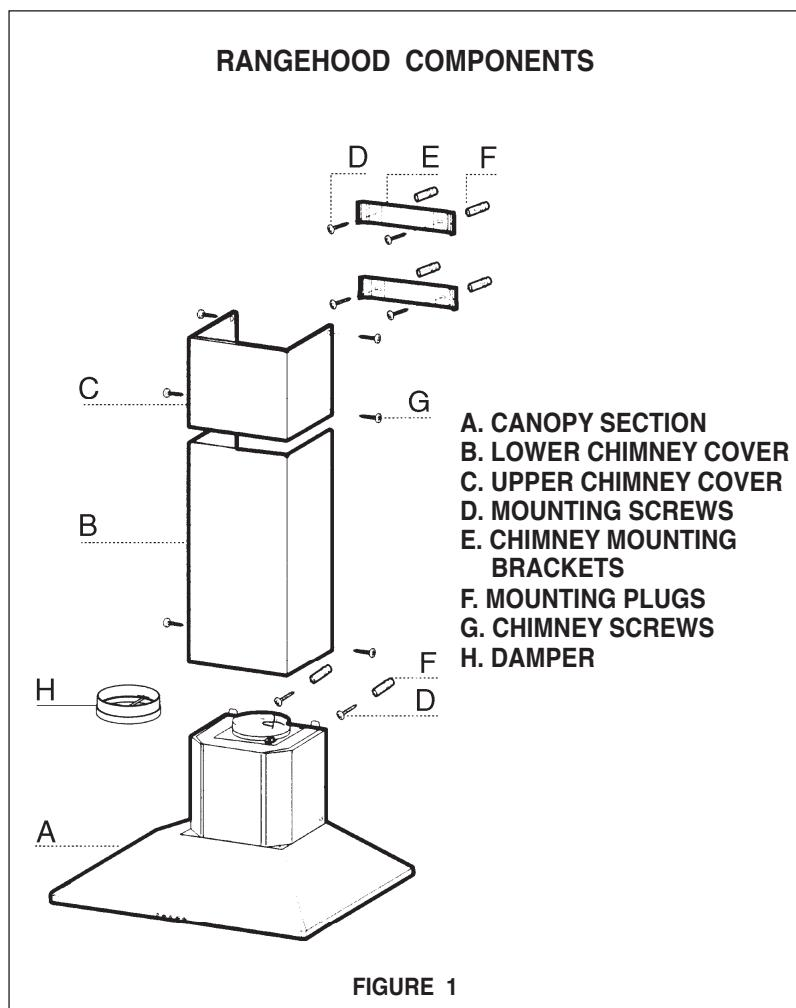
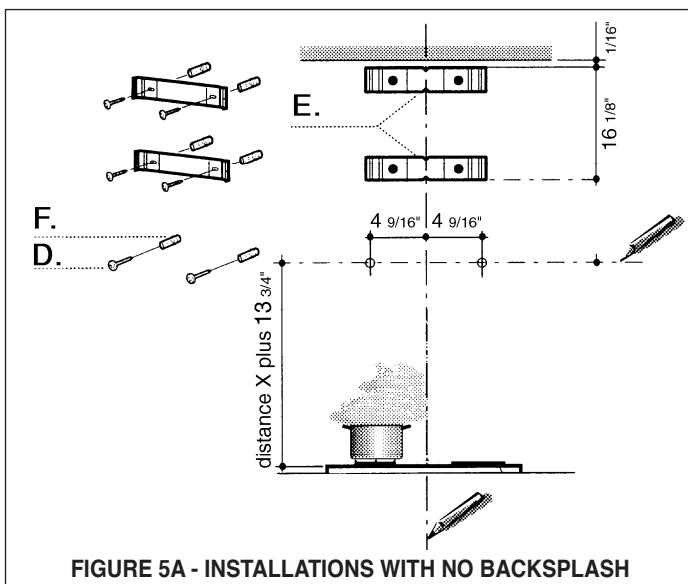

FIGURE 1
FIGURE 5A - INSTALLATIONS WITH NO BACKSPLASH
3. Based on your ceiling height and/or personal preference, determine the distance you would like between the bottom of the hood and the cooktop (**distance X** in **FIGURE 4A OR 4B**). Draw a horizontal line the height of **distance X** plus 13 3/4" (**as indicated in FIGURE 5A - INSTALLATIONS WITH NO BACKSPLASH**).
4. Place the **UPPER CHIMNEY MOUNTING BRACKET (E)** on the wall as shown 1/16" from the ceiling, aligning the center notch with the vertical center line. Mark the wall at the centers of the holes in the bracket.
5. Place the **LOWER CHIMNEY MOUNTING BRACKET (E)** on the wall as shown at 16 1/8" below the upper bracket, aligning the center notch with the vertical center line. Mark the wall at the centers of the holes in the bracket.
6. Install the **CHIMNEY MOUNTING BRACKETS (E)** on the wall using the **MOUNTING SCREWS (D)** provided.
7. For the most secure installation, the **MOUNTING SCREWS (D)** which mount the **CANOPY SECTION (A in FIGURE 1)** should be installed into wood. Mark the wall along the horizontal line 4 9/16" in from the center line on either side (**as indicated in FIGURE 5A or 5B**) and install the **MOUNTING SCREWS** into the wall leaving about 1/4" gap between the wall and the head of the screw.
5. For ducted installations, the **DAMPER (H in FIGURE 1)** must be attached to the exhaust opening on the top of the **CANOPY SECTION**. Connect the ductwork and seal all connections with duct tape.
Ductless installations require a **Ductless Conversion Kit** whose components are pictured in **FIGURE 8**. Do not use the **DAMPER (H in FIGURE 1)** for ductless installations. The **LOWER CHIMNEY COVER (B in FIGURE 1)** should be discarded and replaced by a new one with holes (1 in **FIGURE 8**).